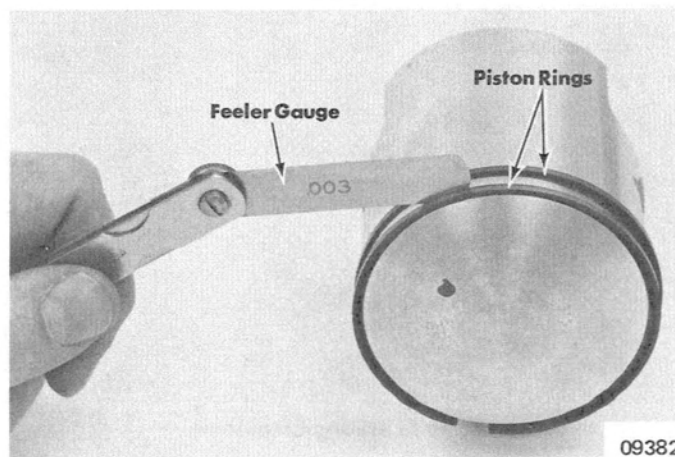

Figure 5. Checking Piston Ring Side Clearances
2. With each piston ring seated in its ring groove, check piston ring side clearances with a feeler gauge. Insert feeler gauge between lower edge of each piston ring and its ring groove. (Figure 5) Side clearances must be within toler-